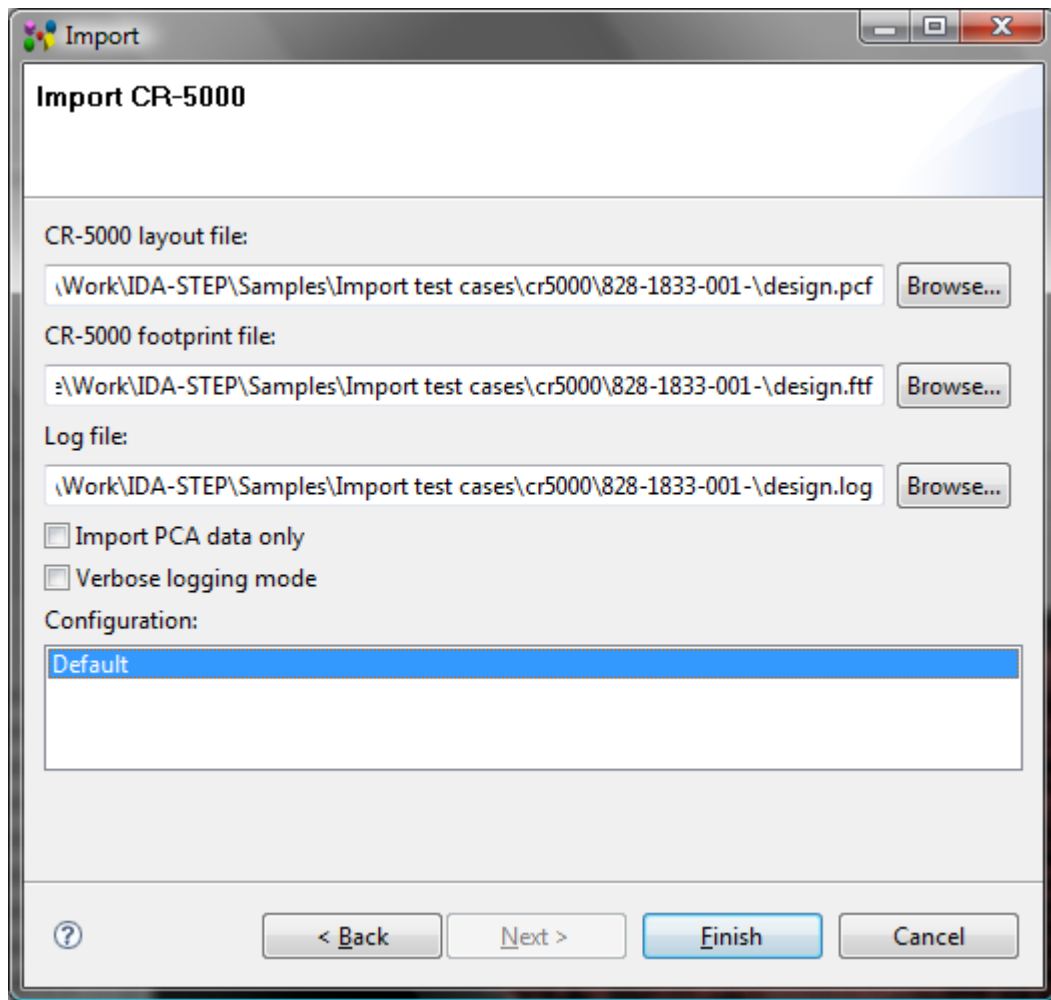

Figure 1. Importing CR-5000 wizard page
- Select **Electronics ->  CR-5000** item in the appeared **Import** wizard page. The **Import CR-5000** wizard page appears on the screen (see Figure 1):